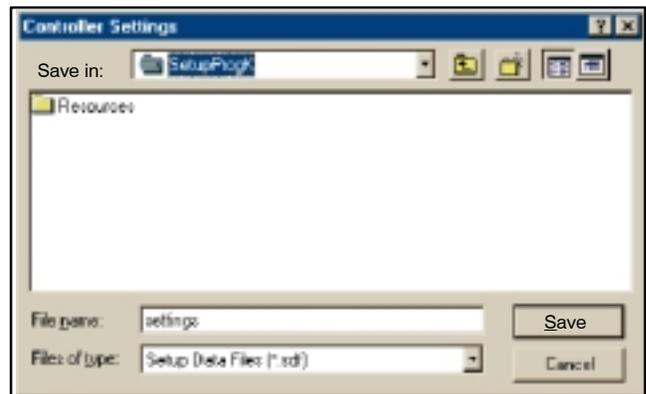

Figure 2-13 Save Setup Screen
3. A dialogue box appears on the screen. See Figure 2-13. Type in a filename for the settings file. Choose a unique name that identifies the system for future reference. Settings file use the extension *.sdf*. Do not type the filename extension; the program appends the extension to the filename automatically.